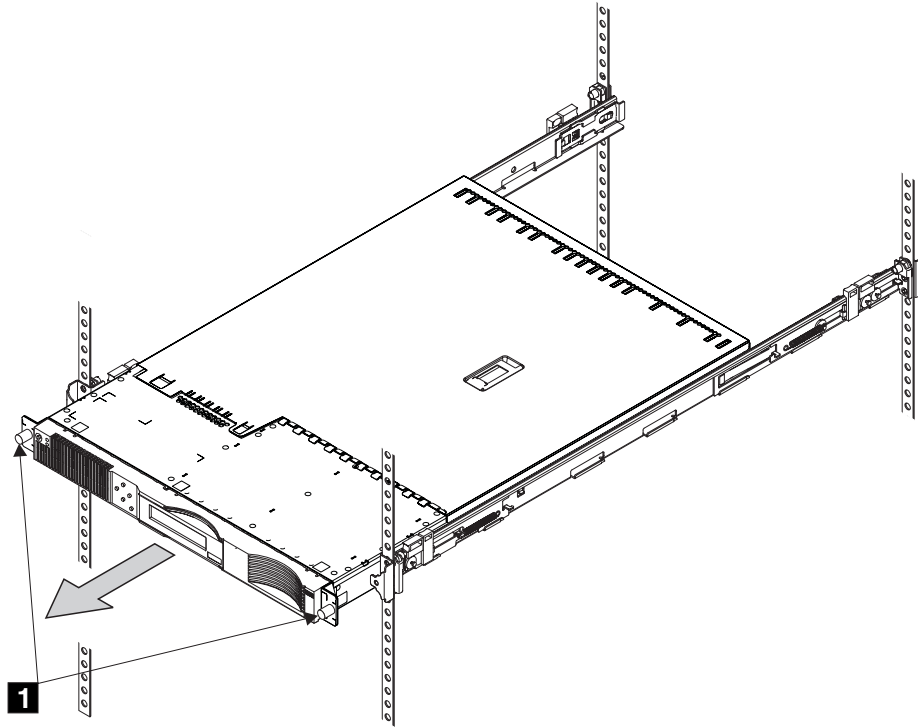

Figure 22. Loosening the front screws to remove the SAN Volume Controller 2145-4F2
1. Unscrew the two front screws (1 in Figure 22 on page 43).